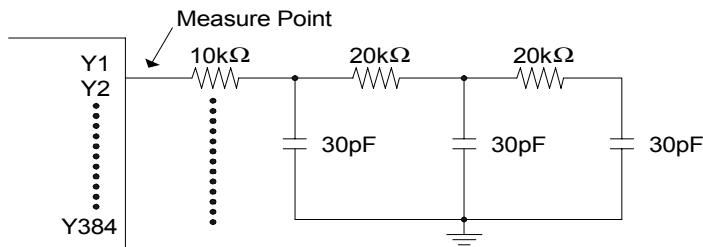

Figure 6. Yout load condition
- (1). VCMRSDS = +1.1V, VDIFFRSDS = VRSDSP - VRSDSN = ±200mV
- (2). The value is specified when the drive voltage value reaches the target output voltage level of 90%
- (3). The value is specified when the drive voltage value reaches the target output voltage level of 6-bit accuracy.
- (4). Yout load condition (refer to Figure 6)